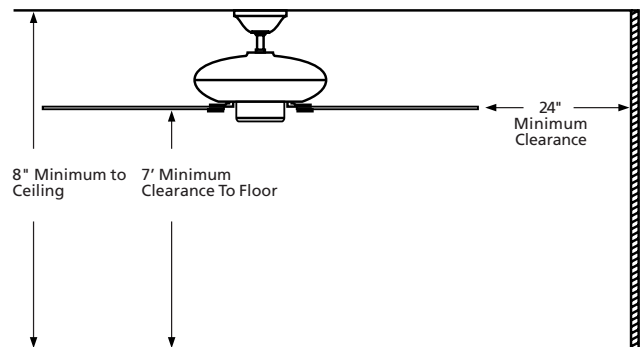

Figure 1
1. Select the installation site: Normally this is near the center of the room, often replacing a light fixture. Make certain that ample clearance is left for the rotating fan blades. For maximum efficiency, no obstructions (walls, posts, etc.) should be within 24" of the tips of the blades. See Figure 1.
2. Fan mounting height: Your Hunter fan comes with the proper hardware to hang the fan from a standard 8 foot ceiling so that the fan blades will be 12" from the ceiling and approximately 7 feet from the floor. See Figure 1.